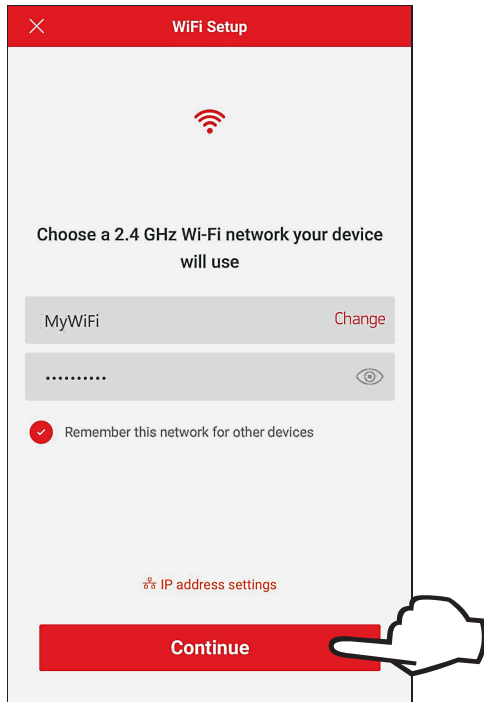

Figure 92. Wi-Fi Setup
- The "Wi-Fi setup" screen will appear. Select or enter the Wi-Fi network you want your unit to be connected to and enter the network password. See **Figure 92**.